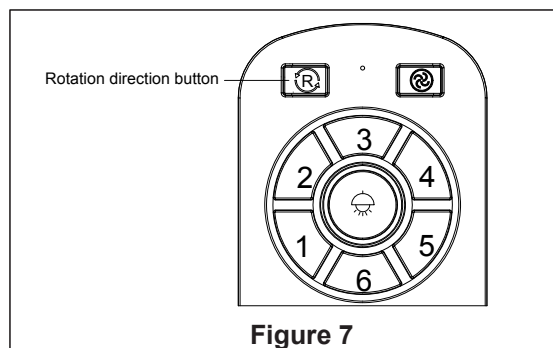

Figure 7
- ☐ If airflow is desired in the opposite direction, Press the F/R button again. (Figure 7)